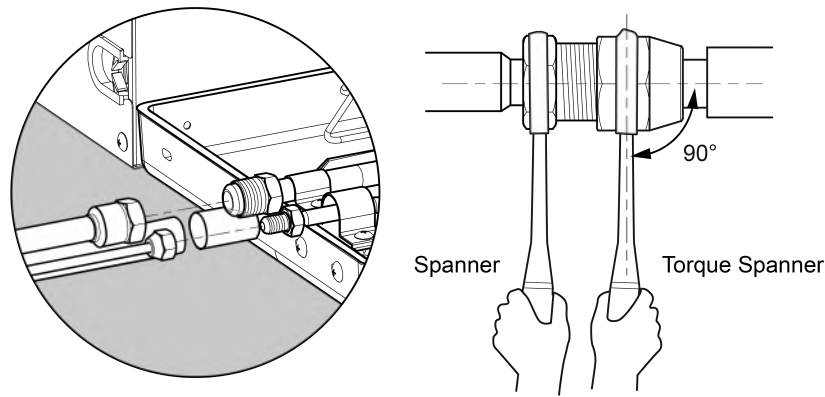

Fig.3.4.1
- Please use a torque wrench to connect union nut on the indoor unit. See the Fig.3.4.1 as below.